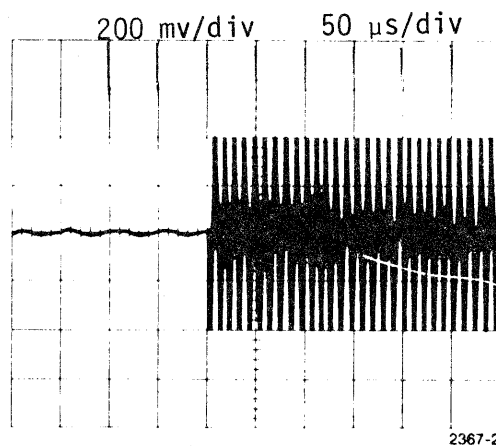

FIGURE 3 Index to Data Timing
d. Observe the timing from the start of the sweep to the beginning of the data burst; it should be 200 μ s \pm 50 μ s. (Figure 3)